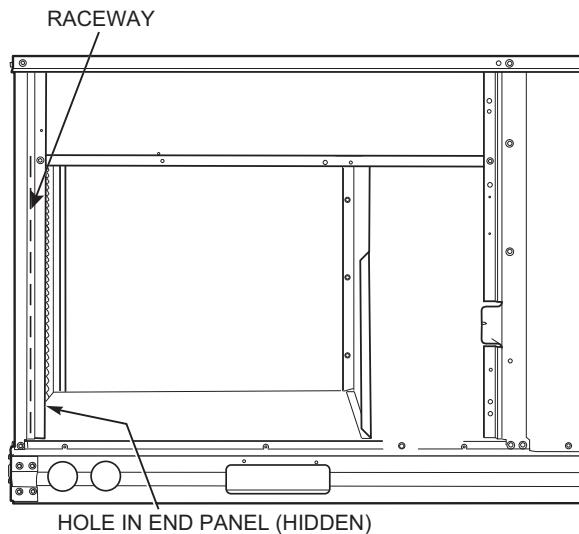

Fig. 36 — Field Control Wiring Raceway
Pass the thermostat control wires through the hole provided in the corner post; then feed the wires through the raceway built into the corner post to the control box. Pull the wires over to the terminal strip on the upper-left corner of the Controls Connection Board. See Fig. 36.
2. Feed wires through the raceway built into the corner post (see Fig. 36) to the 24-v barrier located on the left side of the control box. The raceway provides the UL-required clearance between high-voltage and low-voltage wiring.
2. Feed wires through the raceway built into the corner post (see Fig. 36 on page 20) to the 24-v barrier located on the left side of the control box. The raceway provides the UL-required clearance between high-voltage and low-voltage wiring.